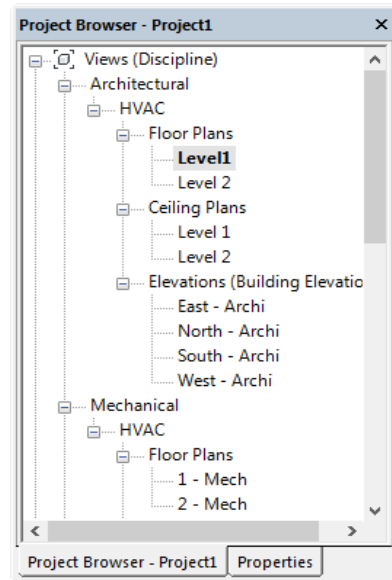

Figure 3-57 The **Properties** Palette displaying other views under the **Elevations** sub-head
- Modify Top Constraint- **Up to Level: Level 2** and Location Line - **Wall Centerline** as wall properties using the **Properties** palette, refer to Figure 3-57.
7. Repeat the procedure followed in steps 3 through 6 to duplicate another level as **Level 2** from **Mechanical** head into **Architectural** head, as shown in Figure 3-57.
12. Repeat the procedure followed in steps 8 through 10 to add other views under the **Elevations** sub-head, refer to Figure 3-57.